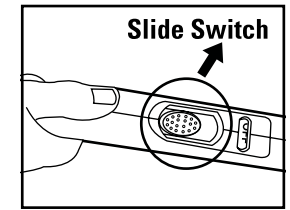

Fig. 4
1. Slide the Selector switch to either FLOOR (suction only/brushroll off) or CARPET (suction with brushroll on). (Fig. 4)